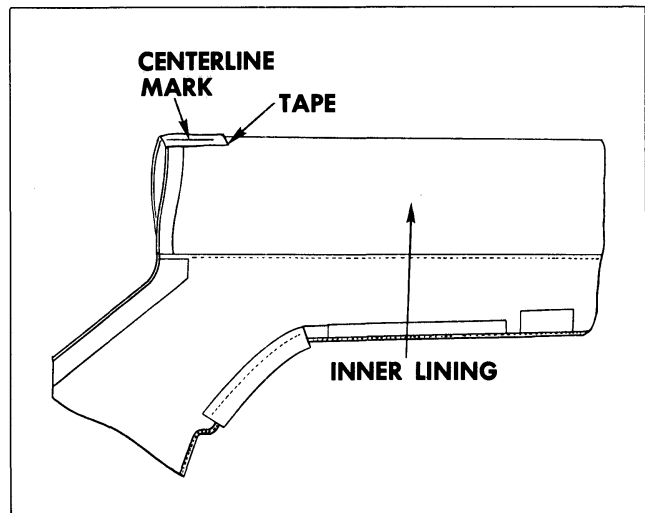

Fig. 21-30 Marking Top Material
23. Fold new top material in half so that inner lining of top material is exposed (Fig. 21-30). Install a 6" piece of tape on inner surface at centerline fold of new top material (Fig. 21-30). Using a pencil, mark the approximate centerline of new top material along entire length of tape.